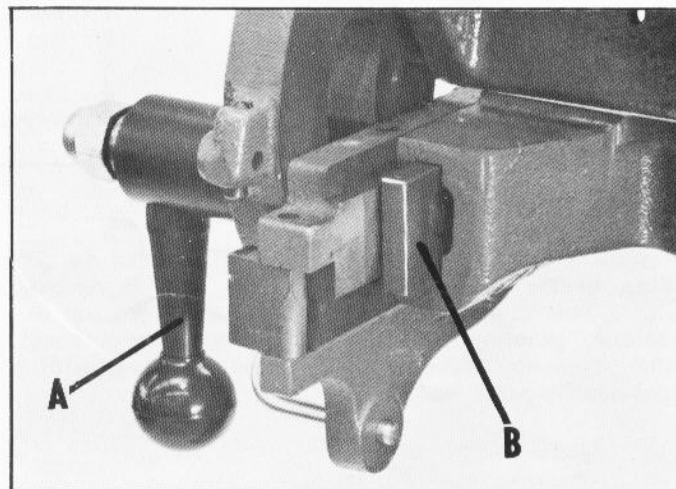

Fig. 15
1. Loosen fence locking handle (A) Fig. 15, and assemble complete fence assembly to the front of the infeed table making sure block (B) is engaged in slot in front of table, as shown.